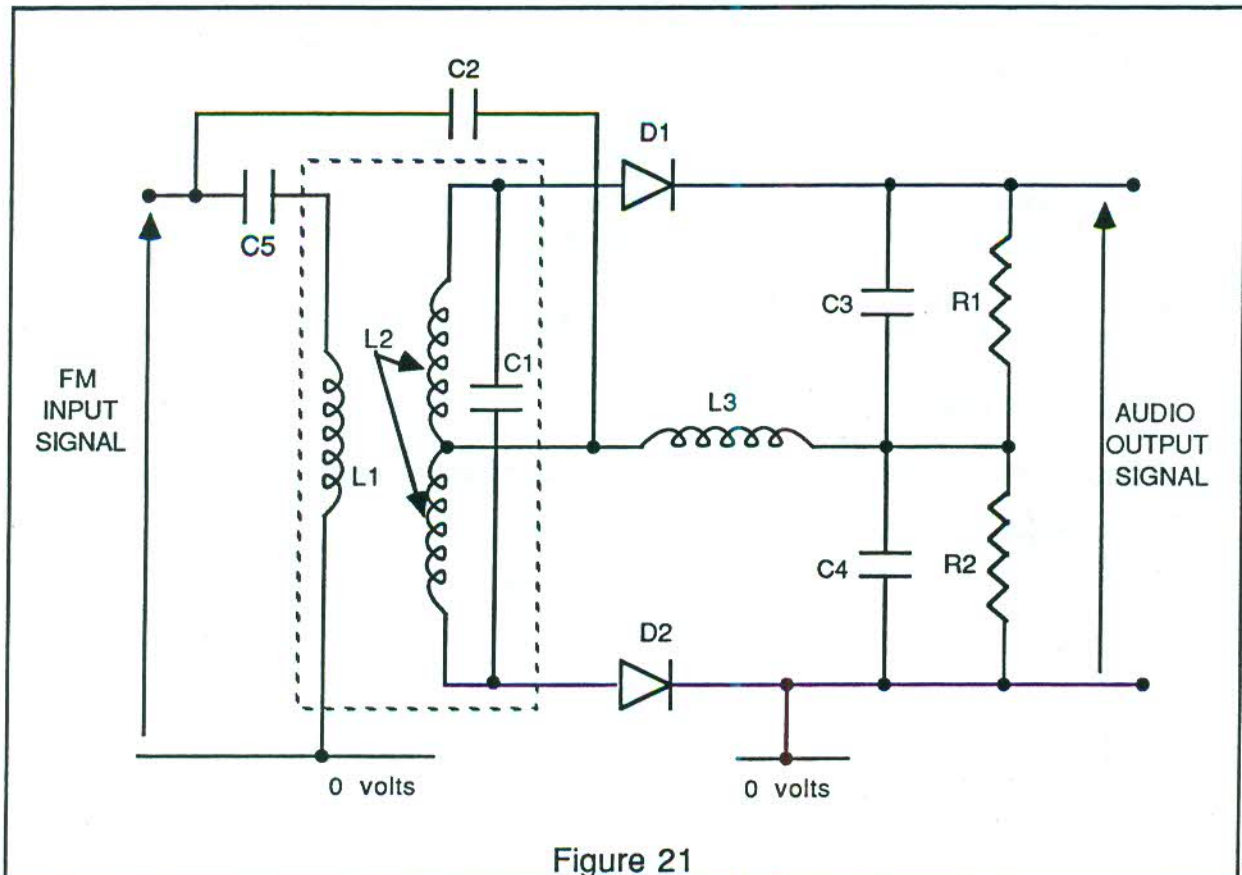

Figure 21
You will recall from Figure 21 that  $V_{FM}$  also appears across inductor  $L3$ . Consequently, when the tuned circuit is at resonance, the voltages at the anodes of diodes  $D1$  and  $D2$  can be represented by vectors  $V_{d1}$  and  $V_{d2}$  in the vector diagram below:
Note that at resonance,  $V_{d1}$  and  $V_{d2}$  are equal, resulting in equal and opposite d.c. levels at the cathodes of the two diodes in Figure 21, relative to the center-tap of  $L2$ . These equal and opposite voltages cancel, to give 0 volts d.c. at the detector's audio output, relative to ground.
In the FOSTER-SEELEY/RATIO DETECTOR block, select the Foster-Seeley detector by putting the switch in the FOSTER-SEELEY position. This configures the circuit to be as shown in Figure 21 above.
11. The high-frequency ripple which is present at the FOSTER-SEELEY OUTPUT is due to the envelope detection process that takes place in the Foster-Seeley Detector (see Figure 21).